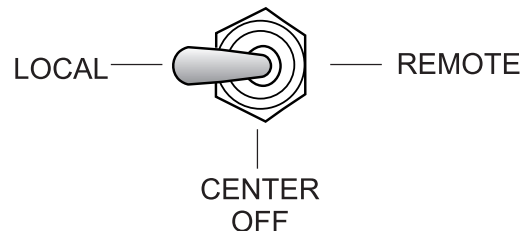

Figure 27. Pumping Control Switch (Local)
1. Place the **pumping control switch** in the **LOCAL** position (Figure 27) for normal pumping operation.